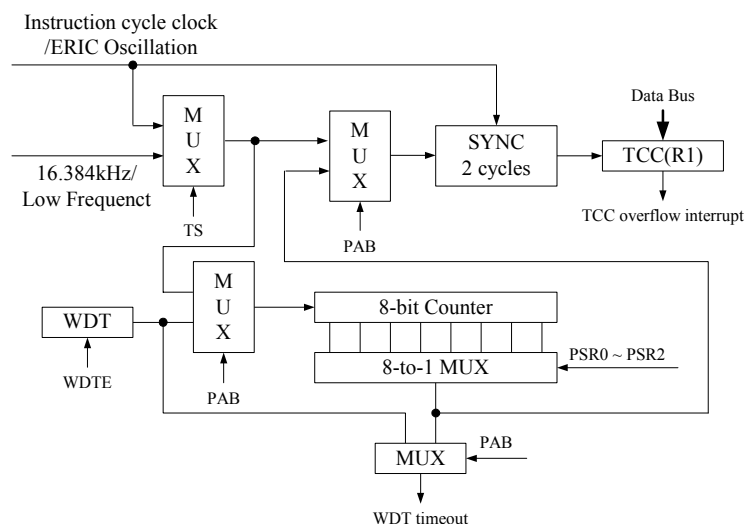

Fig.8 Block diagram of TCC WDT
- Fig. 8 depicts the circuit diagram of TCC/WDT.